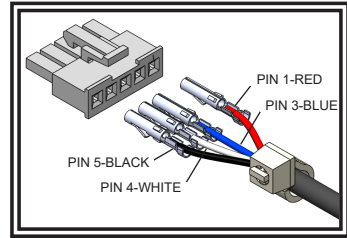

Figure 1
6. Turn pins crimp side up, and insert pins into connector as shown in Figure 1.